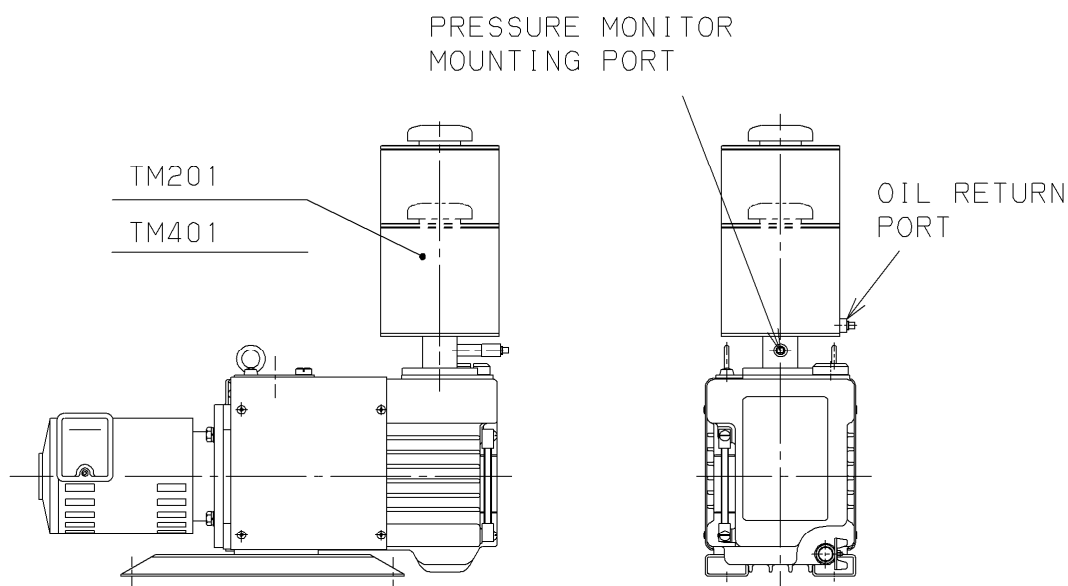

Fig.4 TM201/TM401 mounted in position
3.2 Mounting on Pump (Refer to Fig. 4)